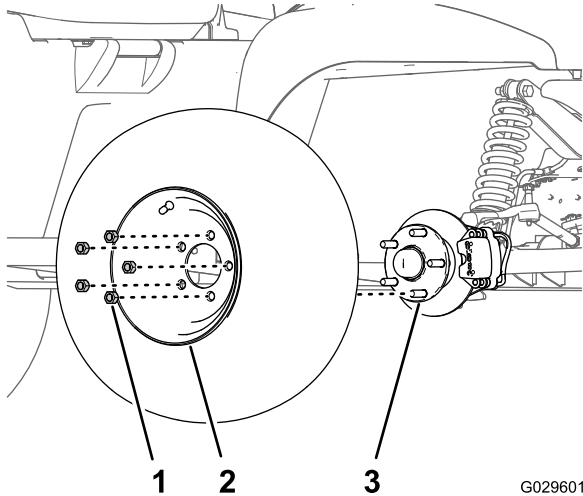

Figure 30
2. Remove the 5 lug nuts that secure the wheel to the hub (Figure 30).